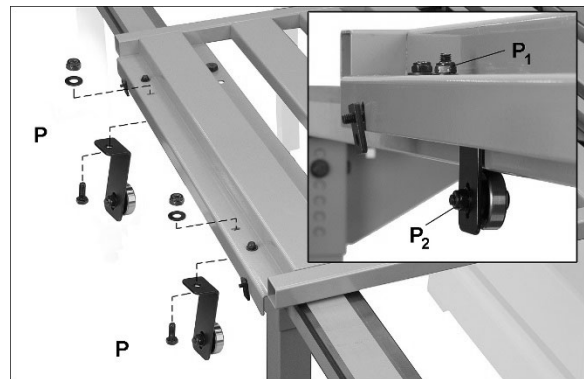

Figure 7-16
8. Install vertical bearing brackets (P, Figure 7-16) to outer rail. Position bracket as far inward toward rail as possible without touching, and tighten lock nut (P_1).